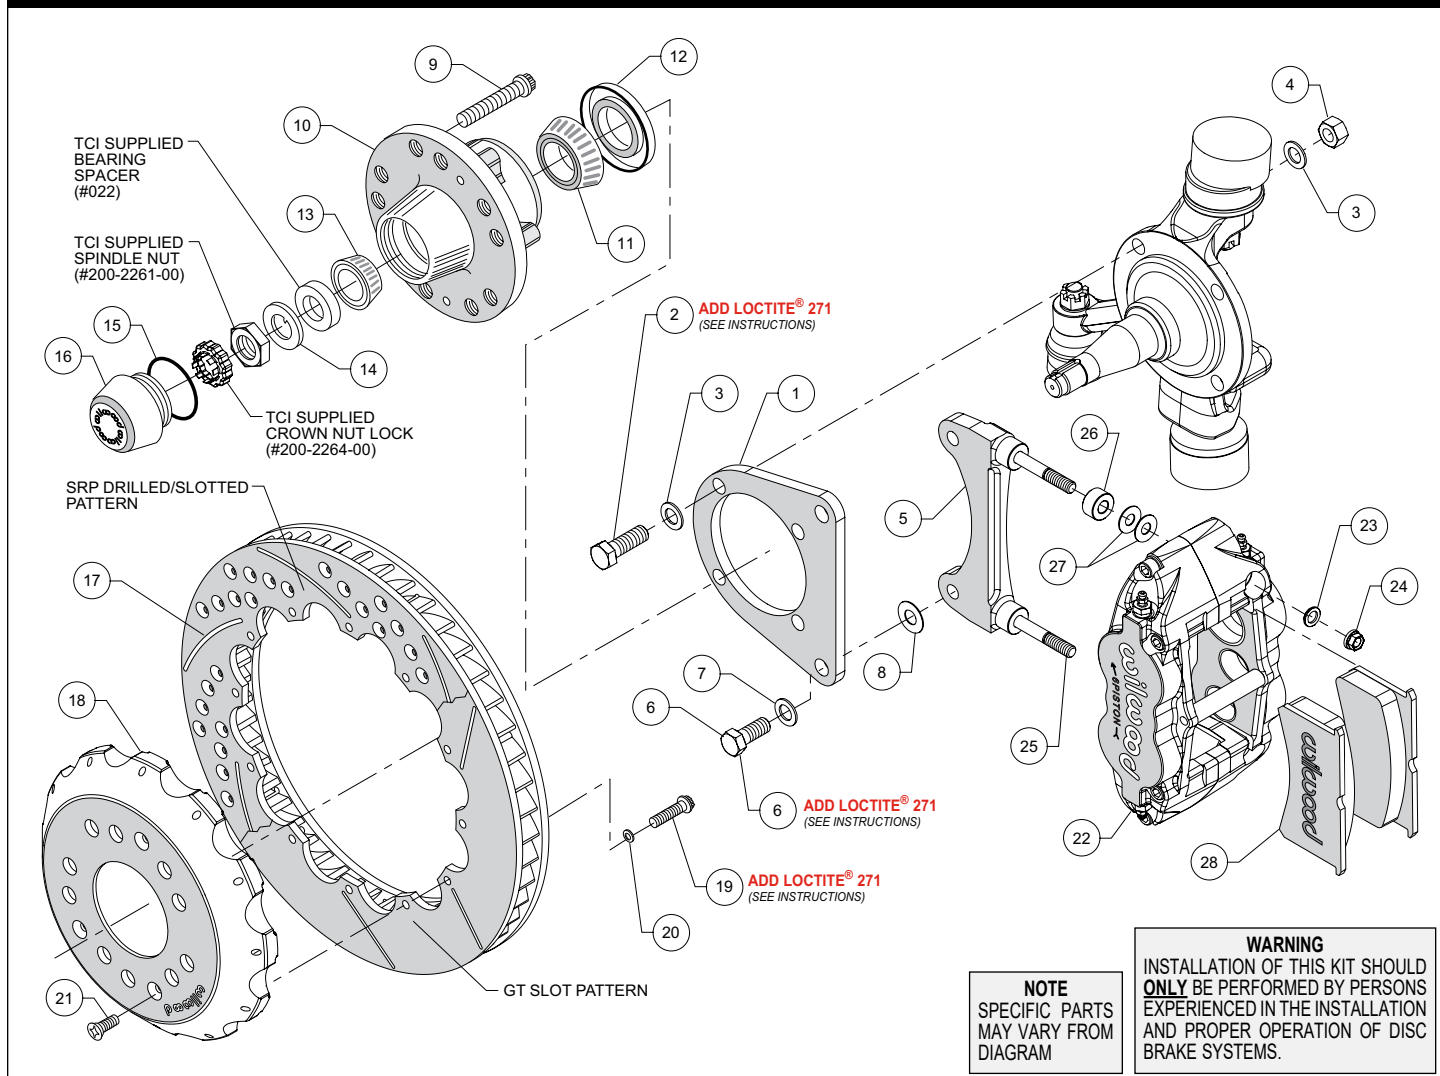
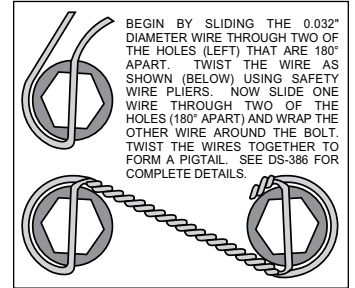

Figure 1. Typical Installation Configuration
Figure 3. Safety Wire Diagram
NOTE: Numbers in parenthesis refer to the parts list and Figure 1 on the preceding pages.
- Orient the flat bracket (1) as shown in Figure 1, and Photo 1, and install using bolts (2), washers (3), and nuts (4). **NOTE:** The two lower mount bolts thread directly into the steering arm. Temporarily tighten the mounting bolts. **NOTE:** The bracket must fit squarely against the spindle face. Inspect for interference from casting irregularities, machining ridges, burrs, etc. After the bracket alignment has been checked, remove the bracket mounting bolts (or nuts) one at a time and apply red *Loctite*[®] 271 to the threads. Torque bolts to 77 ft-lbs.
- The radial mount caliper bracket (5) should initially be installed with clean, dry threads on the mounting bolts. Orient the bracket as shown in Figure 1, and Photo 2, and install using bolts (6), and washers (7). Initially place one .029" thick shim (8) on each bolt between the flat bracket (1) and radial mount caliper bracket (5), Figure 1. Temporarily tighten the mounting bolts. Later, after the caliper alignment has been checked, the mount bolts will be secured using red *Loctite*[®] 271.
- Install wheel studs (9) into the hub (10), Photo 3. Torque to 77 ft-lb. **NOTE:** There are two five lug patterns in the hub (5 x 4.50 and 5 x 4.75). Ensure the correct hub stud pattern is being used to fit the wheel application.
- Pack the large inner bearing cone (11) with high temperature disc brake bearing grease (available from your local auto parts store) and install into the backside of the hub (10), Photo 4.
- Install the grease seal (12) by pressing into the backside of the hub (10), flush with the end of the hub, Photo 4.
- Pack the small outer bearing cone (13) with high temperature disc brake bearing grease and install into hub (10), Photo 5. Slide the hub assembly onto the spindle. Install TCI supplied bearing spacer (#022). Secure using spindle washer (14) and TCI supplied spindle nut (#200-2261-00). Bearing adjustment: Tighten the nut while turning the hub. When there is a slight bind on the bearings, they are seated correctly. Back the nut off about 1/6 to 1/4 of a turn, or sufficiently to allow .001" to .007" end play. **WARNING:** Failure to back off adjusting nut could cause bearing to run hot and be damaged, which could cause the wheel to lock or come off. Install TCI supplied crown nut lock (#200-2264-00) and a new cotter pin (not included).
- Orient the rotor (17) and the hat (18) as shown in Figure 1 and Photo 7. Attach rotor to hat using bolts (19) and washers (20). Apply red *Loctite*® 271 to the bolt threads and torque to 155 in-lb using a criss-cross pattern. For an added measure of security, the bolts may be safety wired using standard 0.032 inch diameter stainless steel safety wire as shown in Figure 3. Please refer to Wilwood's data sheet DS-386 (available at www.wilwood.com/Pdf/DataSheets/ds386.pdf) for complete safety wire installation instructions.
- Slide the hat/rotor (17/18) onto the hub (10) taking care to align the small countersunk holes in the hat with the small threaded holes in the hub. **NOTE:** The hat must fit flush against the hub face or excessive rotor run out may result. Install three flat head screws (21) through the small holes in the hat (18), Photo 8, and torque to 85 in-lb.
- NOTE:** This kit contains distinct right and left hand calipers that must be mounted in a specific direction, as described below. Initially place two .035" thick shims (27) and one spacer (26) on each stud (25) between the caliper and the bracket, as shown in Figure 1 and Photo 9. Mount the caliper (22) onto the bracket (5) using lock nuts (24) and washers (23), Figure 1. Ensure that the caliper is mounted so the largest pistons are at the rotor exit end of the caliper, in relation to the direction of rotor rotation. Temporarily tighten the lock nuts and view the rotor through the top opening of the caliper. The rotor should be centered in the caliper, Photo 10. If not, adjust by adding or subtracting shims (8) between the flat bracket and the radial mount bracket. Always use the same amount of shims on each of the two mounting bolts. Once the caliper alignment is correct, remove the radial mount bracket bolts one at a time, apply red *Loctite*® 271 to the threads, and torque to 77 ft-lb.